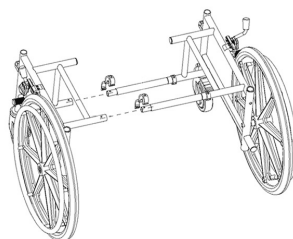

Fig.2
- Connect the newly assembled part to the other side of the frame by using the same two fixing tubes and two additional C-clips as described in the previous point (Fig.2);